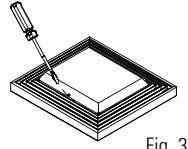

Fig. 3
2. To install the grill/lens/light reflector assembly, first remove the lens from the grill. The lens is secured in place by 2 hooks on the side. Use a flat blunt object (slot screw driver) to deflect the hooks so they release from the grill. The hook area on the grill is indicated by the half moon marks on the lens (fig 3.)